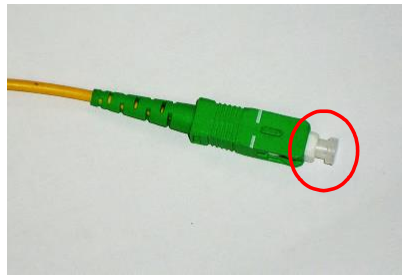

Figure 3-8 SC/APC Optical Connector Dust Cap
- When optic connector are not in use, the port should be covered with a protective dust cap. (Figure 3-8)